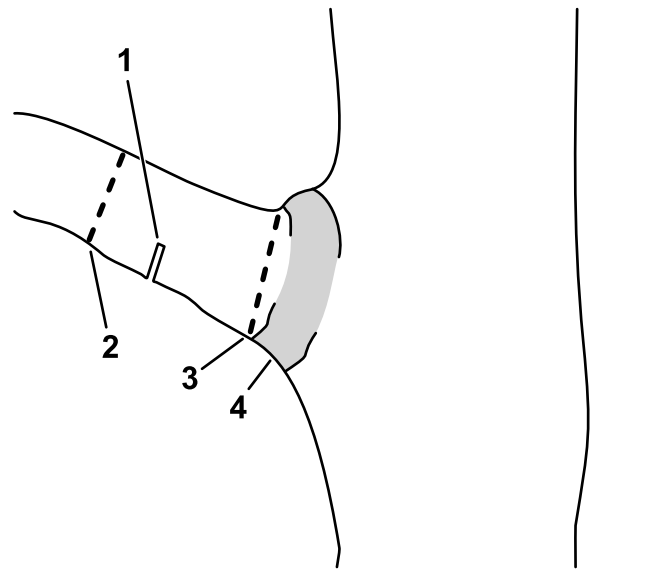

Figure 12
- C. Cut the limb stub at the branch collar (Figure 12).